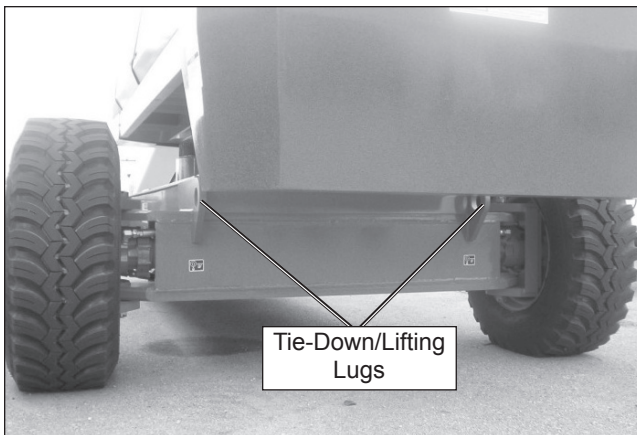
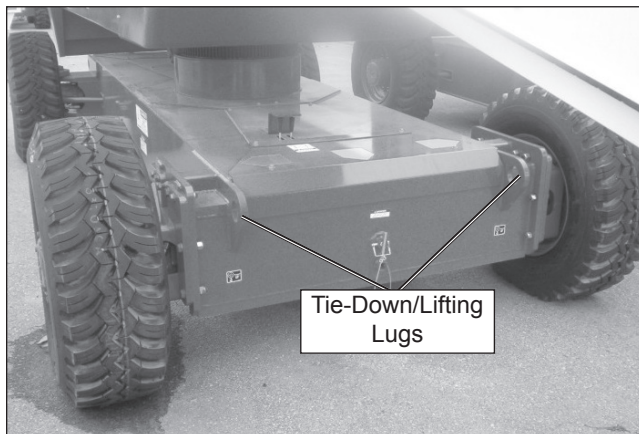

Figure 9.2 – Front Tie-Down/Lifting Lugs
Figure 9.4 – Rear Tie-Down/Lifting Lugs
6. Attach the winch to the tie-down lugs (refer to Figure 9.2) on the front of the chassis.
2. Inspect the front lifting lugs (refer to Figure 9.2) and the rear lifting lugs (refer to Figure 9.4) to make sure they are free of cracks and are in good condition. Have any damage repaired by a qualified service technician before attempting to hoist the machine.